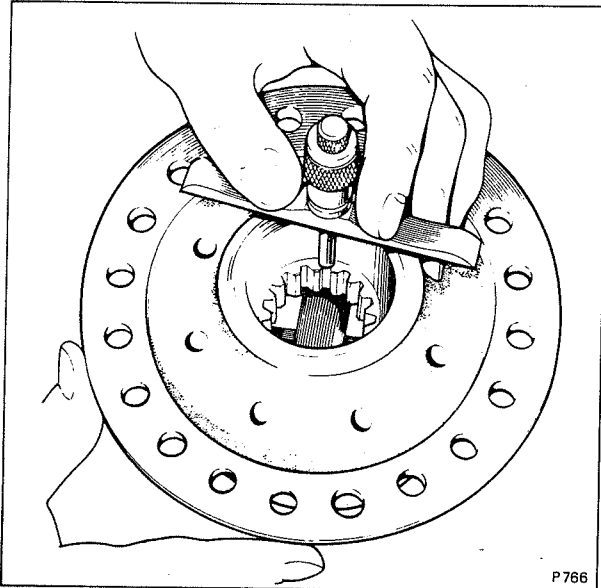

Fig. J4 Splined bevel pinion measurement
5. Push the splined pinion gear into mesh with the bevel gears as far as possible and measure the distance from the end of the differential housing to the end face of the pinion gear (see Fig. J4).